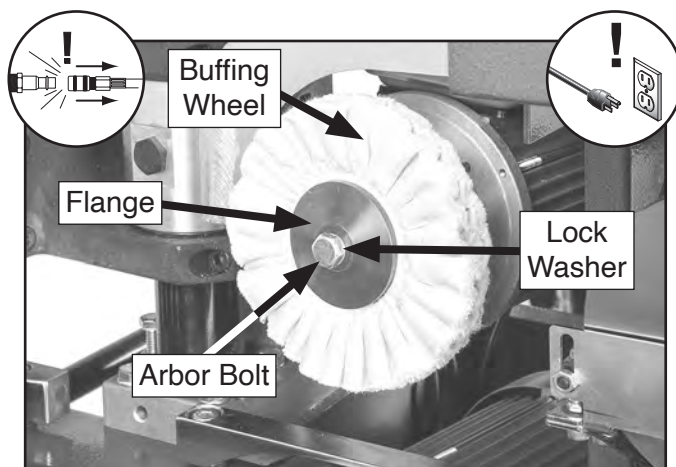

Figure 128. Example of buffing wheel components.
3. Remove arbor bolt securing upper buffing wheel (see **Figure 128**). Bolt has left-hand threads (rotate *clockwise* to loosen; *counter-clockwise* to tighten).
4. Remove lock washer, flange, and buffing wheel (see **Figure 128**).